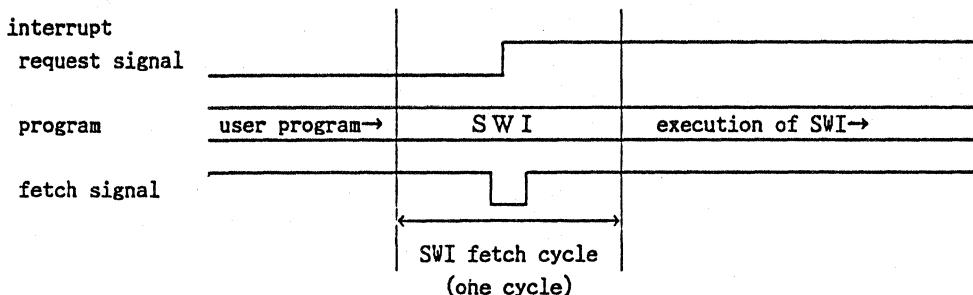

Figure 2 THE TIMING
As shown in Figure 2, when other interrupt request occurs in the cycle which the CPU fetches SWI instruction, the CPU pushes the content of incorrect Program Counter (PC) onto the stack.
Figure 2 shows the timing when the incorrect interrupt sequence occurs.